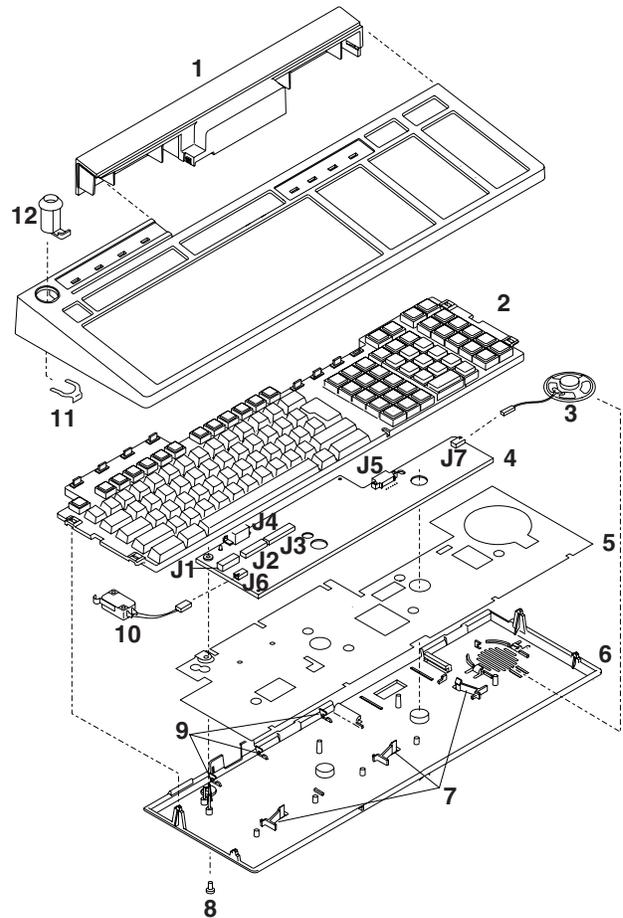

Figure 4-6. Removing ANPOS Keyboard Components
- 4 Remove the grounding screw (8) that goes through the keyboard base and attaches to the logic board. See Figure 4-6 on page 4-12.
- 6 Release the 3 logic board latches (7).
- 7 Move the logic board from under the tabs (9) and lift it out of the keyboard base.
- 3 Remove the keylock retainer (11). See Figure 4-6 on page 4-12.
- 4 Lift the keylock (12) out of the keyboard cover.
- 4 Disconnect the cable on the manager's keylock switch (10) from connector J6. See Figure 4-6 on page 4-12.
- 4 Disconnect the cable on the speaker (3) from connector J7. See Figure 4-6 on page 4-12.